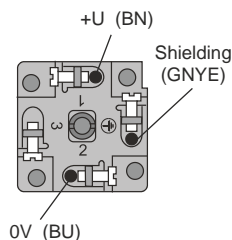
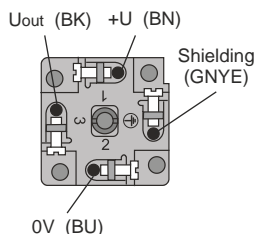

Fig. 7: Connection scheme with current output
Fig. 9: Connection scheme with voltage output
4. Connect the cable wires to the screw terminals as shown in Fig. 7 (current output 4-20 mA) or Fig. 9 (voltage output 0-10 V). Tighten the terminals firmly.